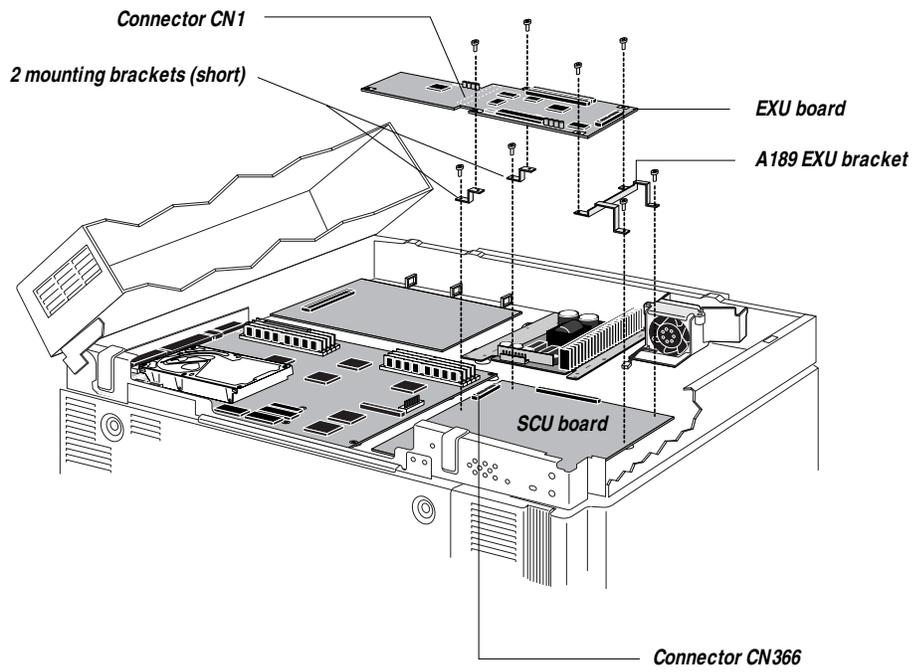

Figure 3-16 Installing the EXU and brackets
2. Place the A189 EXU bracket as indicated in Figure 3-16 on page 3-18.
This kit contains two short brackets and one long bracket. The two short brackets must be installed as indicated in Figure 3-16. The long bracket is not used in A189 installations.
6. Insert four of the mounting screws (M 3x5 Phillips pan-head) into the mounting holes on the EXU board (see Figure 3-16 on page 3-18).